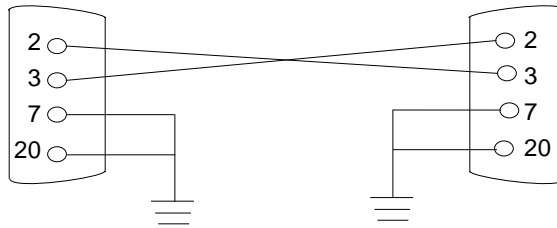

FIGURE 3-1 Setting Up a tip Connection
1. See FIGURE 3-1. Connect serial port A of the system being tested to another Sun workstation serial port B using a serial null modem cable (connect cable pins 2-3, 3-2, 7-20, and 20-7).